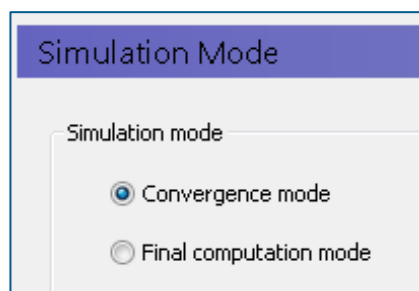

Figure 3-19 Simulation Mode - Convergence
6. Set the Simulation Mode to *Convergence mode* as shown in Figure 3-19.